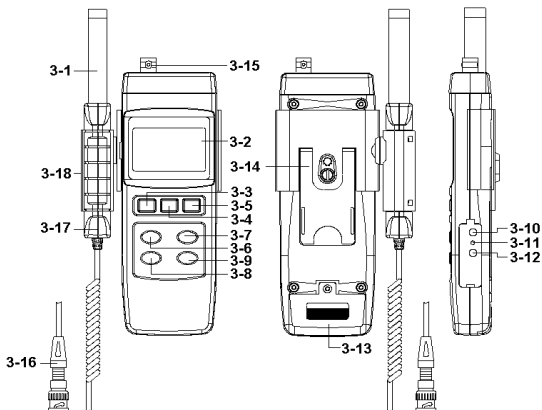

Fig. 1
- 1) * Connect the " BNC plug " (3-16, Fig. 1) into the " BNC socket " (3-15, Fig. 1)
- * Insert the " Probe handle " (3-17, Fig. 1) into the " Probe holder " (3-18, Fig. 1) .
- * Power on by pressing the " Power On/Off Button " (3-3, Fig. 1) , the meter's default function is " Auto range " , " A frequency weighting " & " Fast time weighting " . The lower LCD display will show the unit " A. Fast Auto " .
- 2) Select " A " or " C " frequency weighting by pressing the " A/C Button " (3-7, Fig. 1) .
- 3) Determine proper measuring range by pressing the " Range Button " (3-9, Fig. 1) .
- 4) According to various measuring sound source, select the Time Weighting (Fast or Slow) by pressing the " Time Weighting Button " (3-8, Fig. 1) .
If intend to maintain the maximum value, press the " Max. Hold Button " (3-6, Fig. 1) and a " P.H " symbol will show on the top LCD display. Press the " Max. Hold Button again to exit the function.
During the measurement, pushing the " Hold Button " (3-4, Fig. 1) will hold the measured value & the LCD will indicate " HOLD " symbol.
* The data record function displays the maximum and minimum readings. To start the DATA RECORD function, press the " REC. Button " (3-5, Fig. 1) once. " REC " symbol will appear on the LCD display.
a) Push the " REC. Button " (3-5, Fig. 1) once, the " REC Max " symbol along with the maximum value will appear on the display.
If intend to delete the maximum value, just press the " Hold Button " (3-4, Fig. 1) once a while, then the display will show the " REC " symbol only & execute the memory function continuously.
b) Push the " REC. Button " (3-5, Fig. 1) again, the " REC Min " symbol along with the minimum value will appear on the display.
If intend to delete the minimum value, just press the " Hold Button " (3-4, Fig. 1) once a while, then the display will show the " REC " symbol only & execute the memory function continuously.
To de-activate this feature, Select the memory record function during measurement, by pressing the " REC. Button " (3-5, Fig. 1).
The instrument is provided an 3.5 mm dia. phone socket (3-10, Fig. 1) for AC output, it is used to connect with analyzer, level recorder, tape recorder, controller...etc.
The instrument is provided an 3.5 mm dia. phone socket (3-12, Fig. 1) for RS232 computer interface socket.
- Open the " Battery Cover " (3-13, Fig. 1) away from the instrument and remove the battery.
- Prepare the optional " SOUND CALIBRATOR ", such as " SC-941 " or " SC-942 ". Power on the Sound Calibrator & plug calibrator output socket into the " Microphone " head (3-1, Fig. 1) of the Sound Level meter.
- Adjust the " Calibration VR " (3-11, Fig. 1) carefully with a " - " screw driver until the display reading value within " 94 +/- 0.2 " dB.